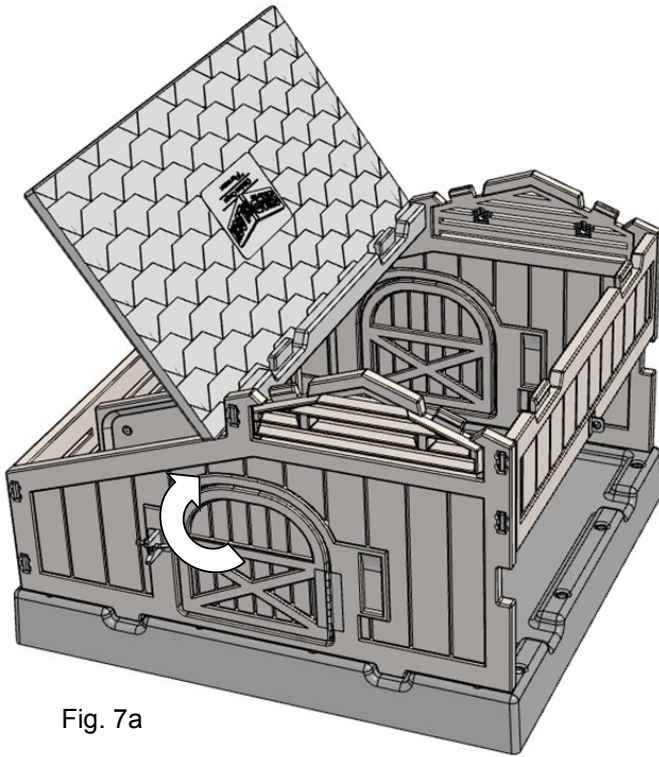

Fig. 7a
Step 7: Assemble the Lid Roof by first folding it up at the hinge point (Fig. 7a), until it has enough clearance to insert the tab on each end into the slot in the Front Wall and the slot in the Back Wall.